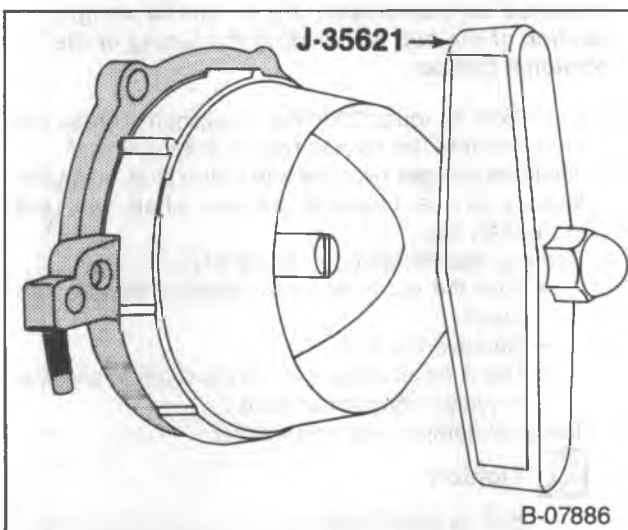

Figure 57—Installing the Rear Crankshaft Oil Seal (5.0L and 5.7L Engines)
4. Rear crankshaft oil seal (figure 57).